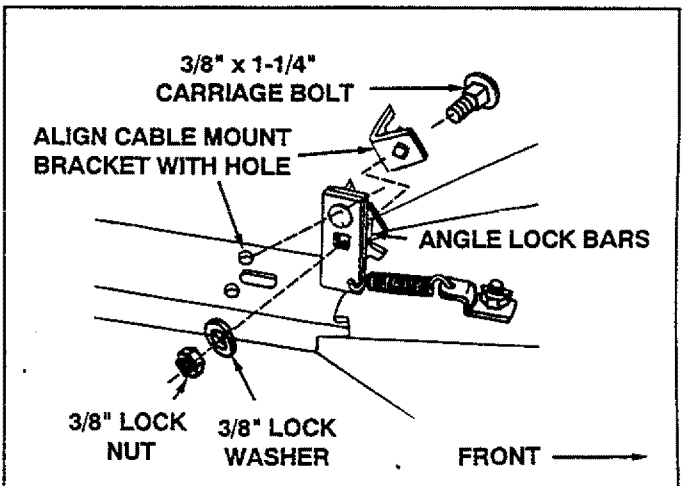
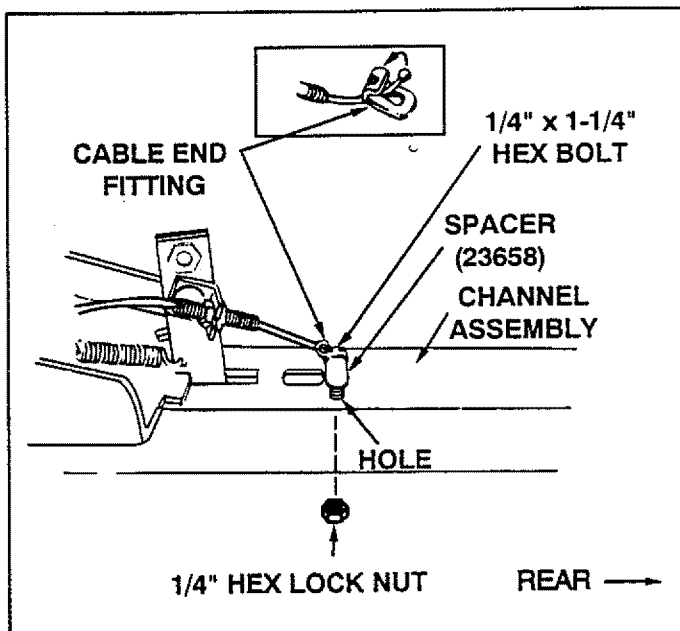

FIGURE 21 (Right Hand Side View)
FIGURE 23 (Left Hand Side View)
- Assemble 3/8" x 1-1/4" carriage bolt through square hole in cable mount bracket and through square hole in angle lock bars as shown in figure 21. Note that the top bolt faces in opposite direction. Using pliers hold the cable mount bracket in position, angling down towards small hole in channel as shown in figure 21, and secure with a 3/8" lock washer and a 3/8" lock nut. **Tighten.** See figure 21. See also figure 23 on page 12 for angle of cable mount bracket.
- Assemble ball end of control cable up through hole in cable end fitting and pull till ball slips inside curled edge of fitting as shown in figure 23. Note: If ball wont slip under edge of curl it will need to be inserted through open end of curl. See figure 23
- Assemble 1/4" x 1-1/4" hex bolt down through the cable end fitting, the 5/8" long spacer and the left hand hole in the channel assembly. Secure with a 1/4" hex lock nut. See figure 23. **Tighten.**